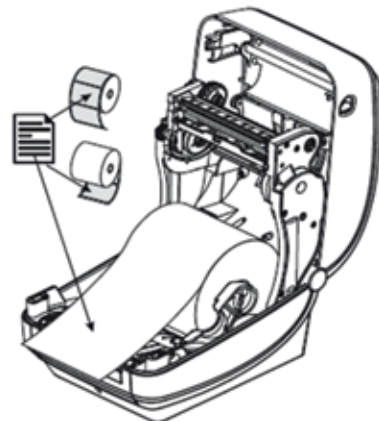

Figure 22
- Pull the paper so that it extends out of the front of the printer. Make sure that the roll turns freely. The roll must not sit in the bottom of the paper compartment. Verify that the printing surface is facing up (see Figure 22).